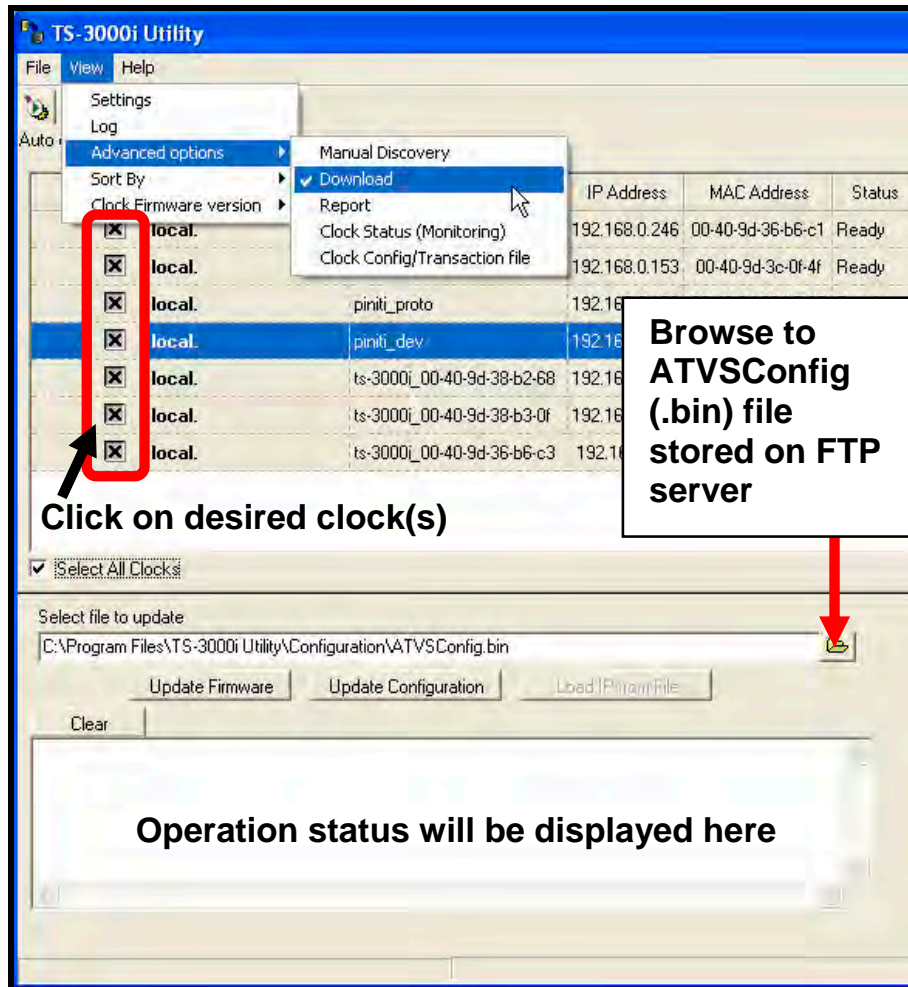

Figure 5-11: Auto Discovery Download
- Step 1.** Startup the TS-3000i Utility. All of the discovered TS-3000i clocks will automatically appear in a list with the **Domain, Device Name, IP Address, MAC Address, and Status**. Select the desired TS-3000i clock(s) from the list by clicking in the “Select” column (see *Figure 5-11*). Click “*Select All Clocks*” to select/deselect all discovered clocks (this is the default).